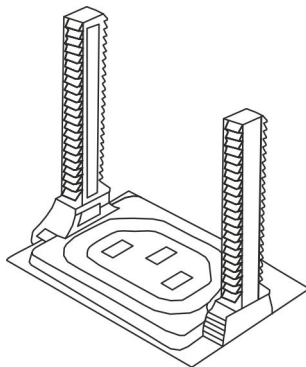

Fig. 16: Attaching the posts
1. ➔ Insert the posts into the holder with the recess pointing inwards (Fig. 16).